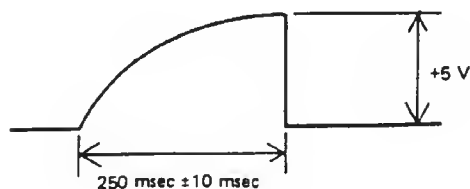

Fig. 5
4. Play any single key and adjust VR12 to obtain an attack time of 250msec  $\pm$ 10msec. See fig. 5.